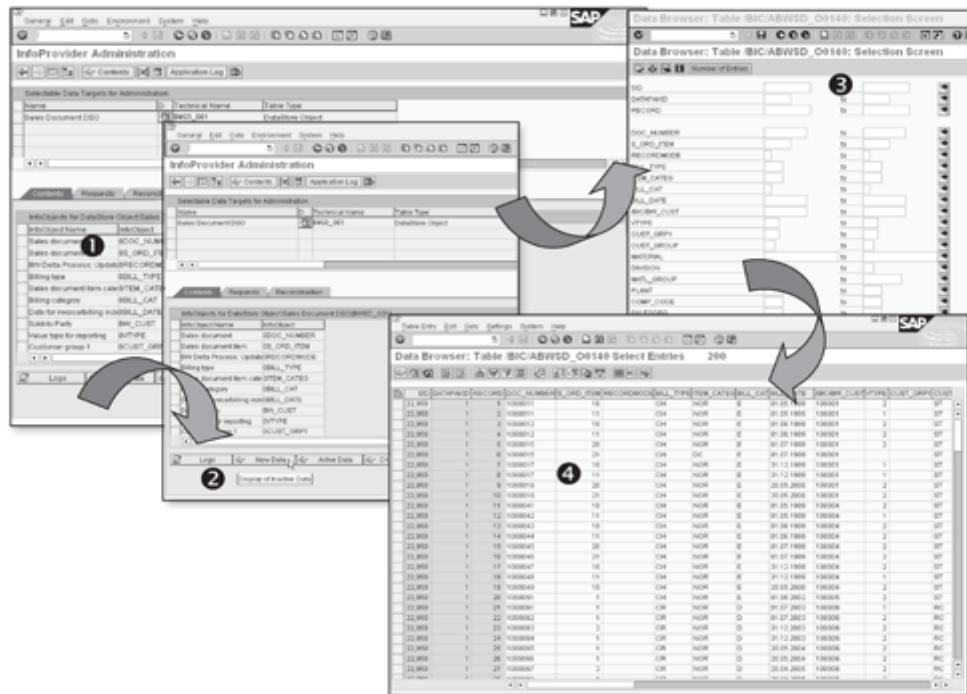

Figure 14.3 View Content of DSO – Active Data Table
The lower part of the Contents tab (❶ of Figure 14.3) provides buttons that allow you to view different types of content (❷ of Figure 14.3). Click on the button for the chosen table (the New Data button refers to the Activation Queue), and the system takes you to the Data Browser: Table <Technical Name> screen (❸). The selection screen contains fields for each of the InfoObjects in the DSO, along with the technical field value options relevant to the type of table. Click on the Number of Entries button, and the system provides information about the number of entries. To make